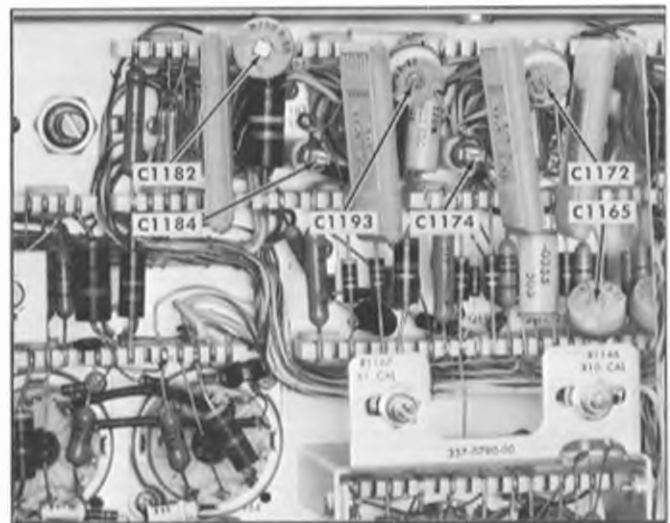

Fig. 6-47. High-speed sweep compensation adjustment, A sweep.
If the linearity from the 1st to 2nd marker is exceedingly poor, check the position of the slugs in C1174 and C1184 (Fig. 6-47). The slugs should normally be positioned about five turns above the metal wiper contacts. If the slugs are readjusted so they are five turns out, repeat step (ae).
- f. Adjust C1193 (see Fig. 6-47) for maximum sweep expansion.
g. Adjust C1182 (see Fig. 6-47) for maximum sweep expansion.
h. Adjust C1172 (see Fig. 6-47) for maximum sweep expansion.
m. Adjust C1165 (see Fig. 6-47) for 1 cycle/2 cm and so the sine-wave peaks at the 1-cm and 9-cm locations coincide with their respective graticule lines.